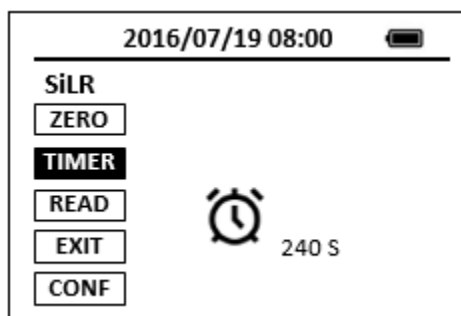

Figure 8. Multiple Timer Method
3. Place sample vial back into the sample vial compartment and press the timer button **TMR1**. The SP-800 will start to monitor the reaction between the reagent and the species you want to measure in the water sample. The concentration is shown in the chart as a function of time (Figure 8).
In order to show the concentration-time curve as shown in Figure 8 during the last timing step, The SP-800 must be zeroed using the prepared blank before the last timing step. Thus, the last timer button will not be selectable until the SP-800 has been zeroed using the prepared blank. Multi-timing step Hach® methods require zeroing the colorimeter using the prepared blank after the last timing step is completed. The SP-800 can optionally be re-zeroed using the prepared blank after the last timing step. The blank value measured will be subtracted from the concentration value measured at the end of the last timing step. Optionally, the **READ** button could be pressed to read the prepare sample again.
3. Place the prepared sample into the SP-800 sample vial compartment and press the **TMR2** button to start the second timer. The SP-800 will display the measured concentration as a function of time as shown in Figure 8.